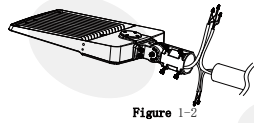

Figure 1-2
- Step2: Connect the input wires of the fixture to the mains correctly, Figure 1-2;